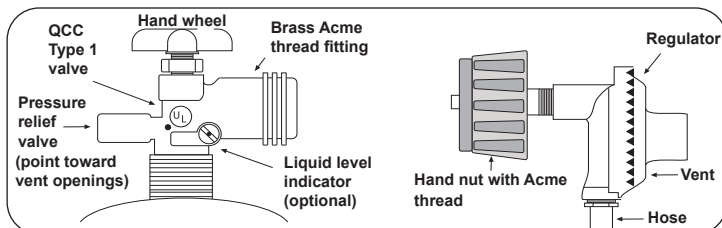

Fig. 7-1 Type I Acme thread coupler
- The pressure regulator and hose assembly (Fig. 7-1) *supplied* with this outdoor gas appliance (L.P. models only) must be used. Original and replacement pressure regulator and hose assemblies must be those specified by the manufacturer for connection with a cylinder connecting device identified as Type I by the *ANSI Z 21.58/CGA 1.6* (see PARTS LIST for ordering information).
To disconnect: Turn the hand nut counterclockwise until detached (Fig. 7-1).